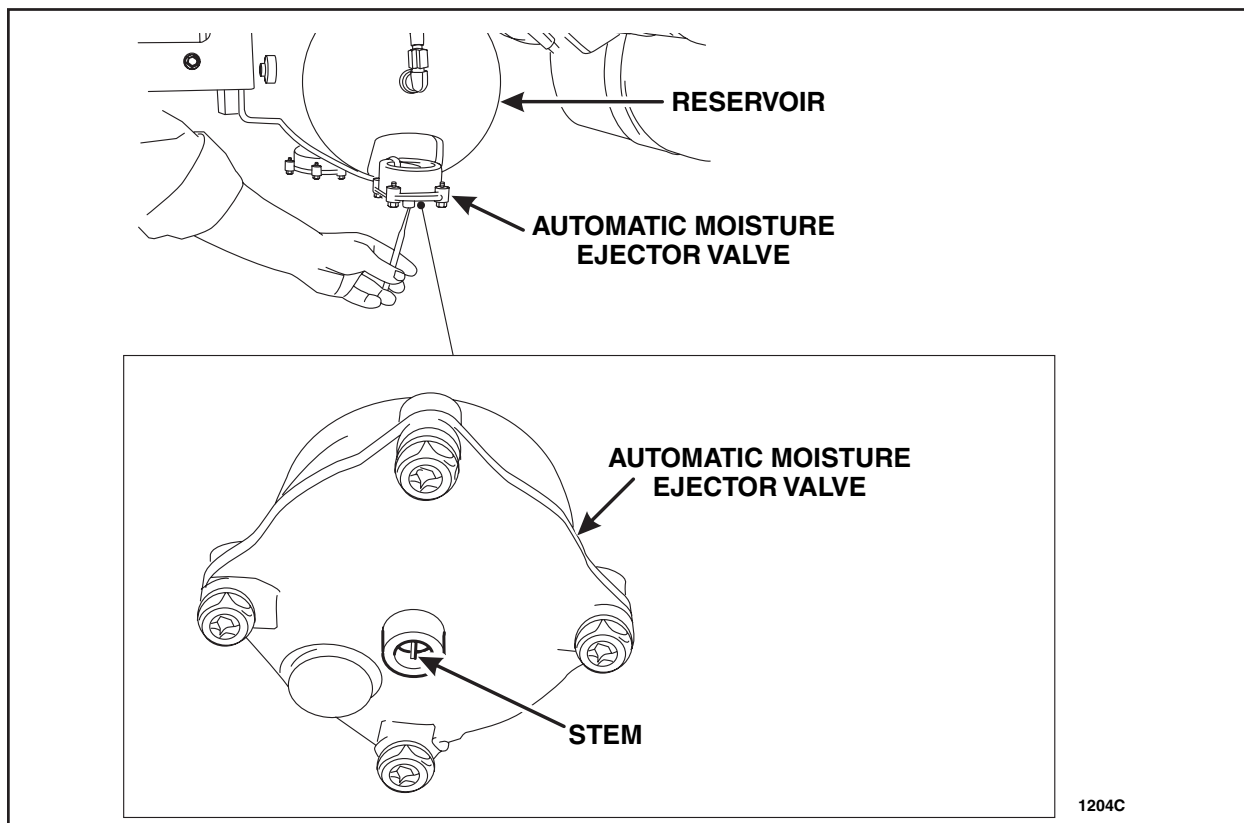

FIGURE 3
- For vehicles with automatic moisture ejector valves, use a suitable tool to press the stem on the bottom of the valve. See Figure 3.